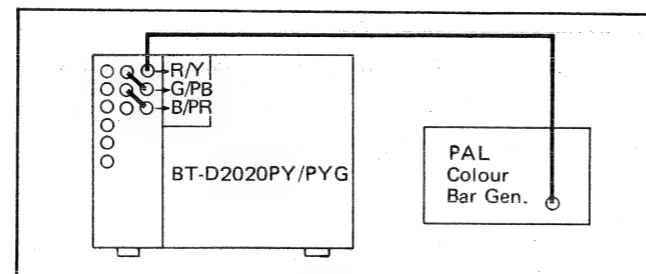

Fig. 15
1. Connect the Y loop through output to **Pb** input terminal and **Pr** loop through output to **Pr** input terminal as shown in Fig. 15.